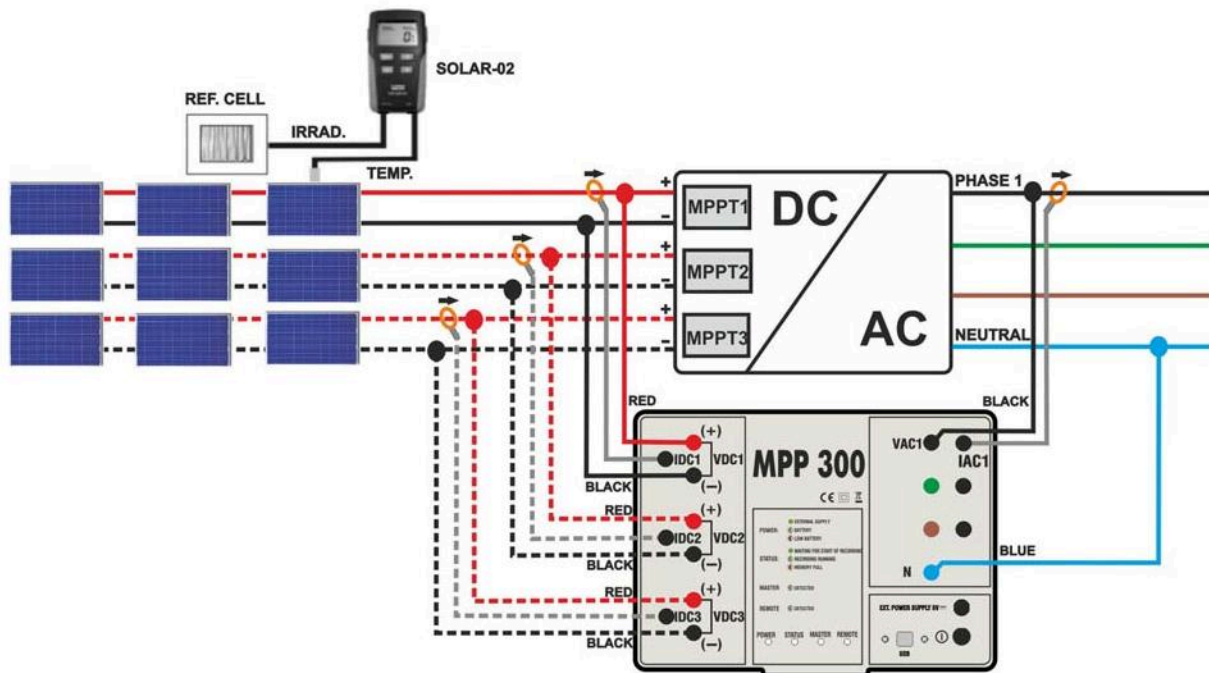
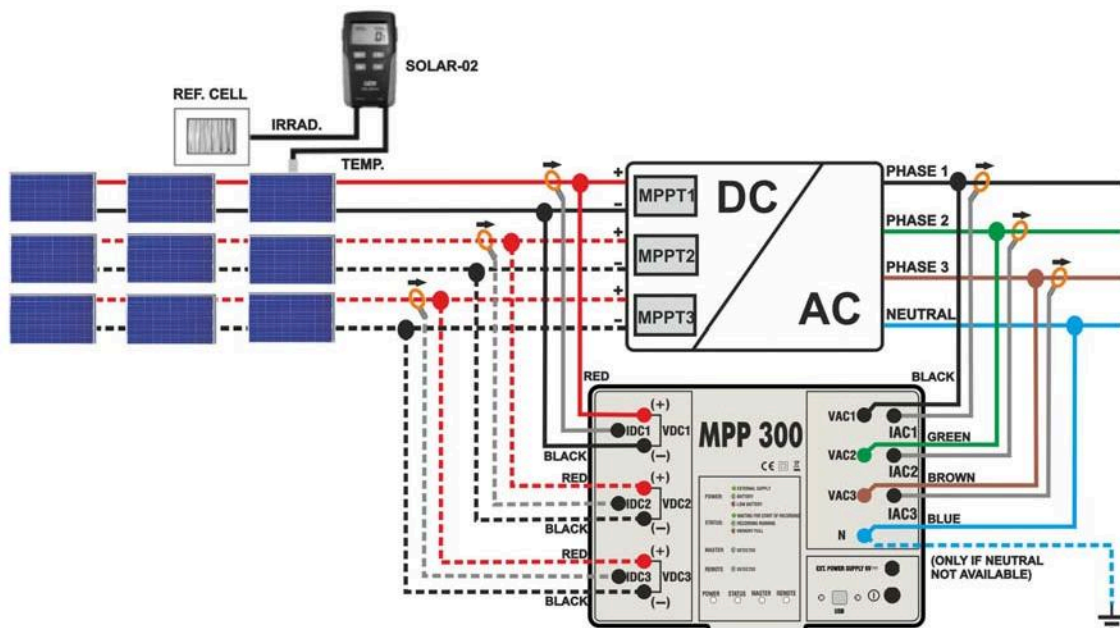

Fig. 163: Connection of MPP300 for testing a single-phase PV system
Fig. 164: Connection of MPP300 for testing a three-phase PV system
7. Fig. 163 Fig. 164 Connect the **VDC1(+)** and **VDC1(-)** inputs of unit **MPP300** to the output terminals of the string, respecting the polarities and the colours indicated in Fig. 163 or Fig. 164.
10. **Fig. 164** Insert the DC current clamp onto the positive output conductor of the string, **respecting the direction of the arrow** found on the clamp itself as indicated in Fig. 163 or Fig. 164. Position the clamp toroid as far as possible from the inverter and from the negative output conductor of the string itself.
12. Connect the **VAC1** and **N** inputs of unit **MPP300** to the Phase and Neutral conductors respectively, respecting the polarities and the colours indicated in Fig. 163 or Fig. 164. In case of three-phase systems in which no Neutral conductor is available, connect input **N** to earth.
14. **Fig. 164** Connect the AC clamp to the Phase L1 conductor, **respecting the direction of the arrow** found on the clamp itself as indicated in Fig. 163. and/or Fig. 164. Position the clamp toroid as far as possible from the inverter and from the Neutral conductor. Connect the clamp output to the **IAC1** input of MPP300.